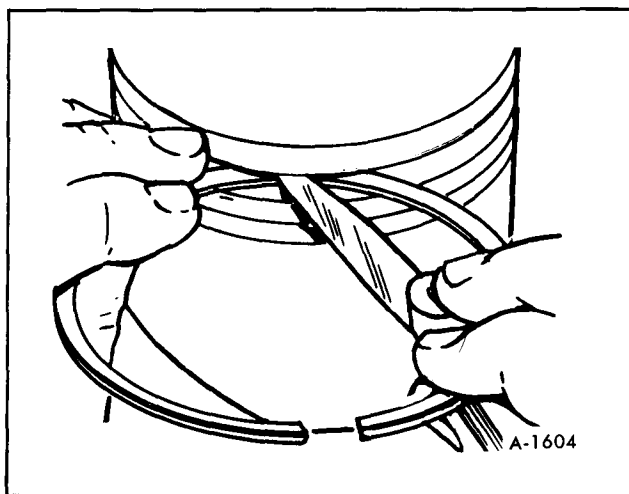

Figure 15—Checking Ring Side Clearance
a. Inspect the pistons for fractures at the ring lands, skirts and pin bosses. Check for wear at the ring lands using a new ring and feeler gauge as shown in Figure 15. Replace the piston when the side clearance of the top compression ring reaches 0.008".